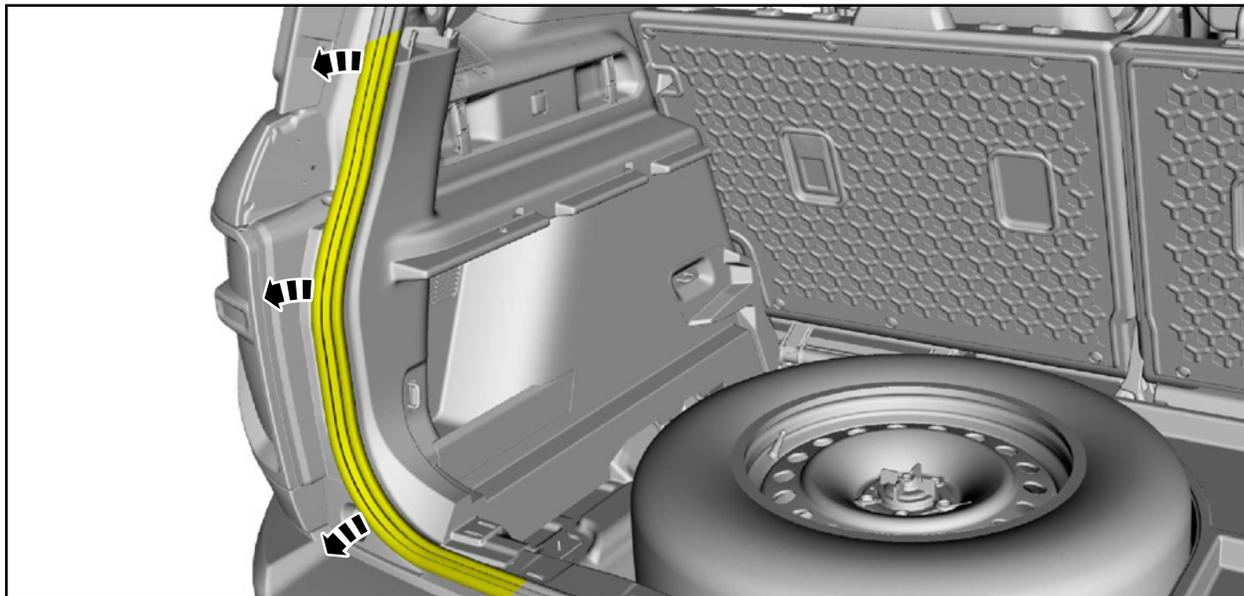

FIGURE 19
19. Position the LH liftgate weatherstrip aside. See Figure 19.